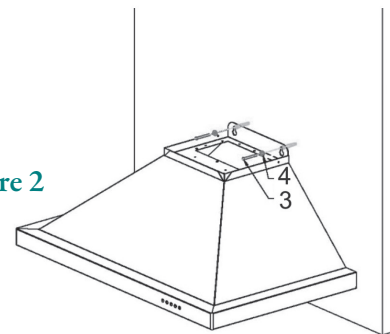

Figure 2
**3** Mount the main body of the hood to the two screws and screw into place. **(Figure 2)**